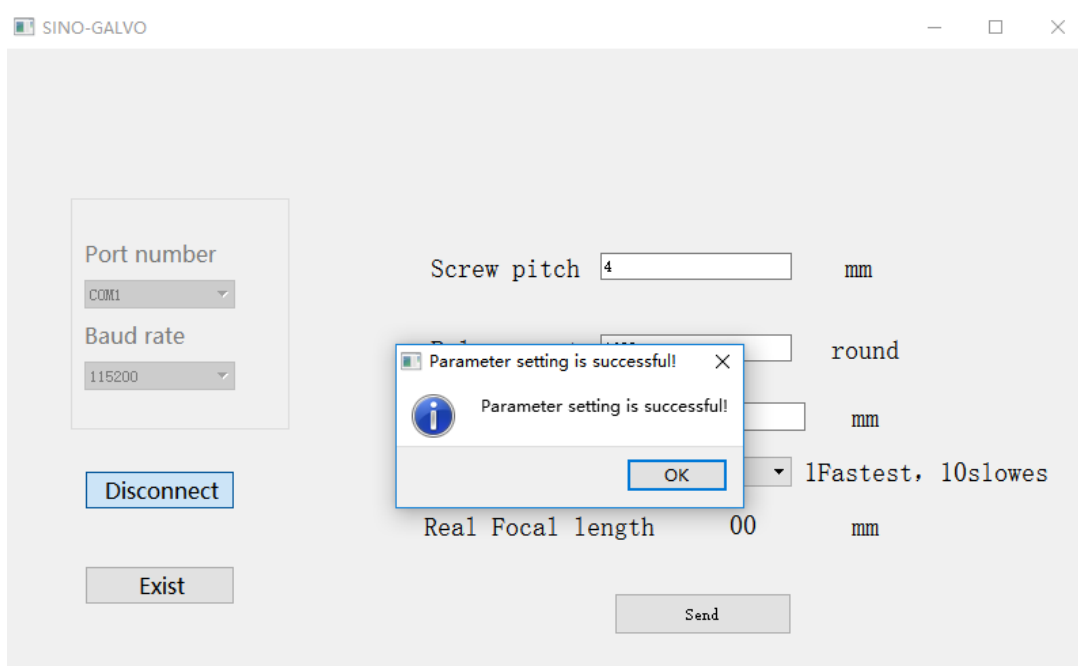

Figure 4-3
- ④ After set the Screw Pitch/Pulse Number(The pulse number that stepping motor need for one round spinning), click the "Send", successfully set window will be showed as Figure 4-3.